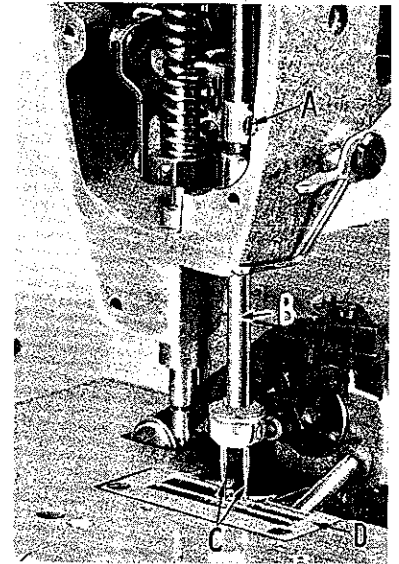

Fig. 2
Align needle bar by using a new set of needles Type 108 GS, of a size to meet the requirements. Loosen screw (A, Fig. 2) and turn needle bar (B) so that the needles (C) center in the front end of the needle slots in the throat plate (D), and retighten screw. The height of the needle bar is set so that the top of the rear needle's eye is  $1/32$  inch below the back looper, when point of looper, moving to the left, is even with the left side of this needle.